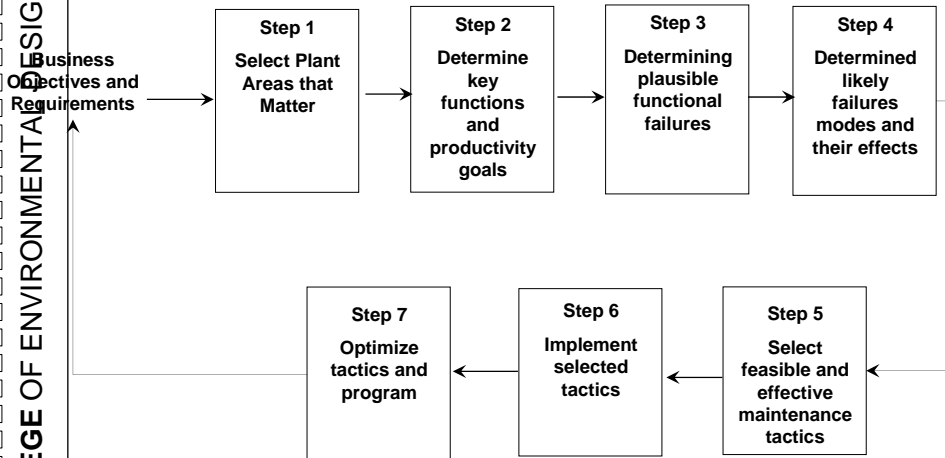

Figure 7-2: RCM Review Process
- ❖ This questions are answered through a logical , seven-step review process, illustrated in figure 7-2.